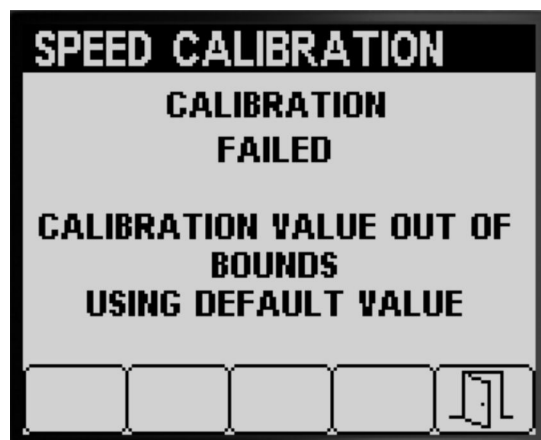

Figure 69
- A message displays indicating that the speed calibration is failed (Figure 69).
Note: If the calibration value is out of bounds (Figure 69), contact your authorized Toro service dealer; otherwise, review the error message and repeat the calibration steps in Preparing for the Speed Calibration (page 22) and Performing the Speed Calibration (page 23).
- Press button 5 to exit the Speed Calibration screen (Figure 68 or Figure 69).